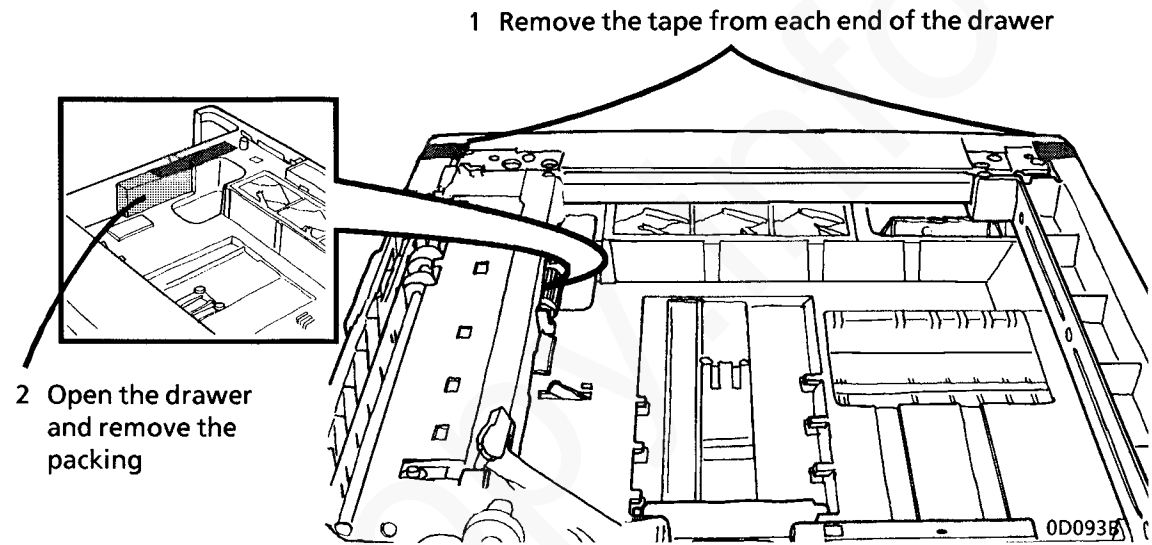

Figure 1.
4. Remove the tape (Figure 1).
5. Remove the foam block (Figure 1).